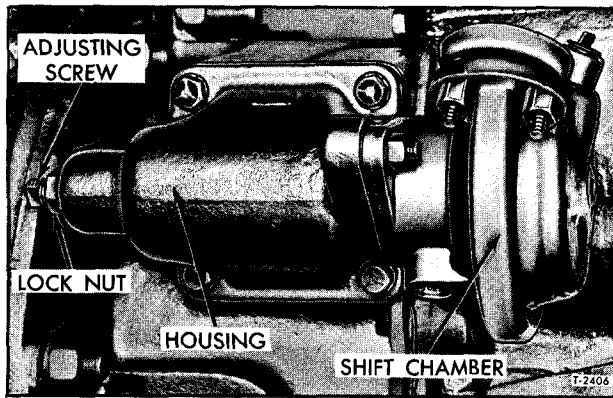

Figure 12—Inter-Axle Shift Chamber and Housing Installed (Rockwell)
1. At right side of differential carrier adapter case, remove inter-axle differential lock shift housing cap screws and lock washers, then remove housing and shift cylinder assembly (fig. 12).
8. Position shift housing to carrier (fig. 12) with shift lever in shift collar groove.